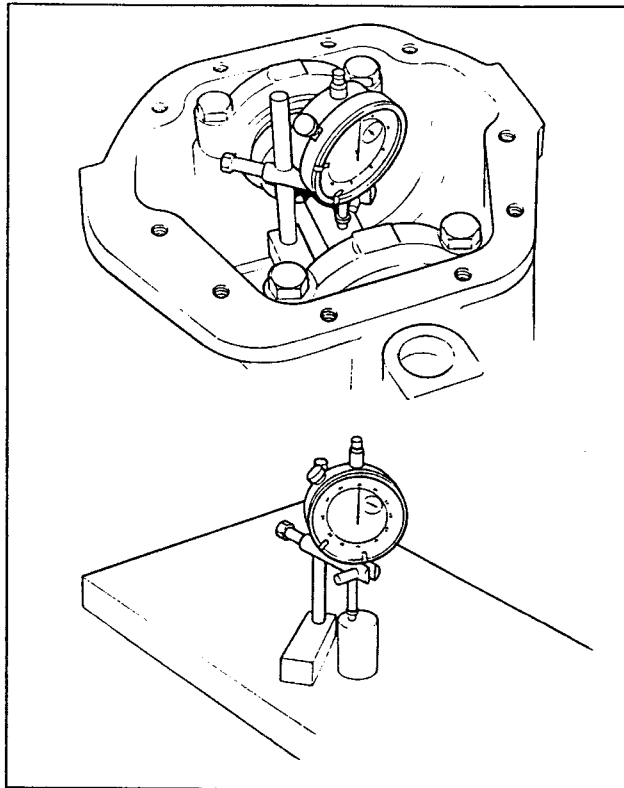

Fig 9. Setting up the dial gauge
Set up the base of the dial gauge (7) on the top of the dummy pinion (1) so that it is angled correctly to rest on the ground shaft (5) between the two differential bearings (Fig. 9). When a satisfactory position has been established, tighten up the gauge on its mounting so that it cannot move position relative to the base.
Before taking the measurement, the dial gauge must be 'zeroed' on a surface plate (Fig. 9) using the setting button FX 4214. The 'zeroed' gauge must then be transferred to the axle so that the base of the gauge can be located on the top of the dummy pinion and the stylus can be moved back and forth over the top of the ground shaft to register its maximum height.